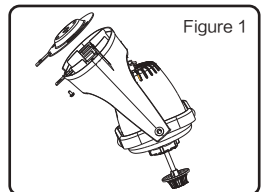

Figure 1
1.Remove the chassis (as shown in Figure 1)